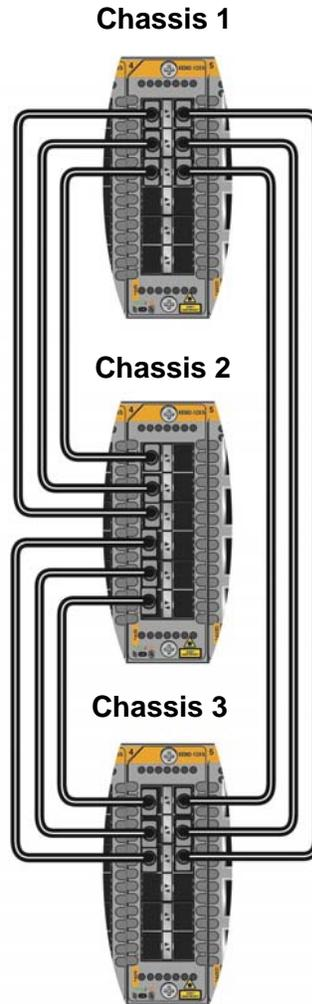

Figure 17. Example of a Trunk with Multiple Links Between Switches
- You can increase the bandwidth and resiliency of trunks by increasing the number of physical links between switches. The example in Figure 17 uses ports on XEM2-12XS Line Cards to build a stack of three switches, with a trunk of three links from switch-to-switch.